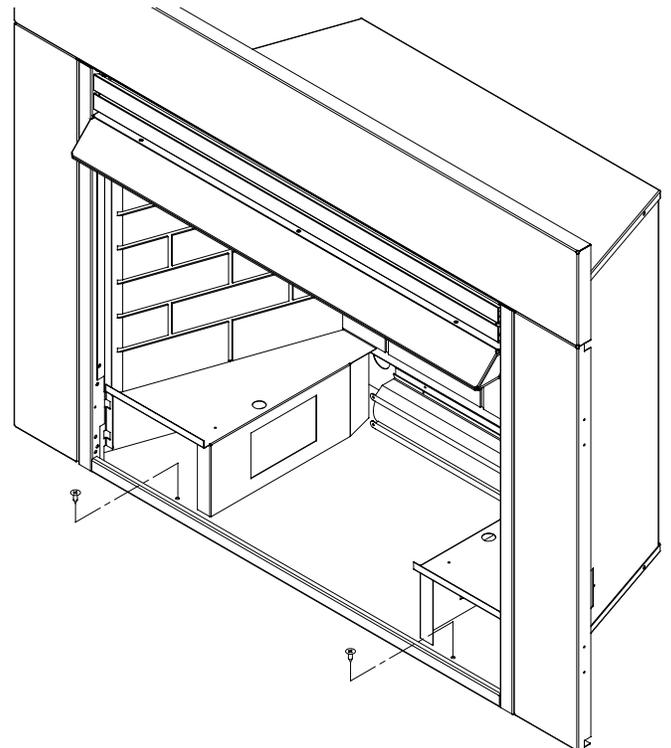

Figure 16 - Securing Firebox to Floor or Hearth
5. Secure the firebox with two anchoring screws ($\frac{3}{16}$ " x $1\frac{1}{4}$ " length) supplied with the fireplace system. See *Figure 16*.